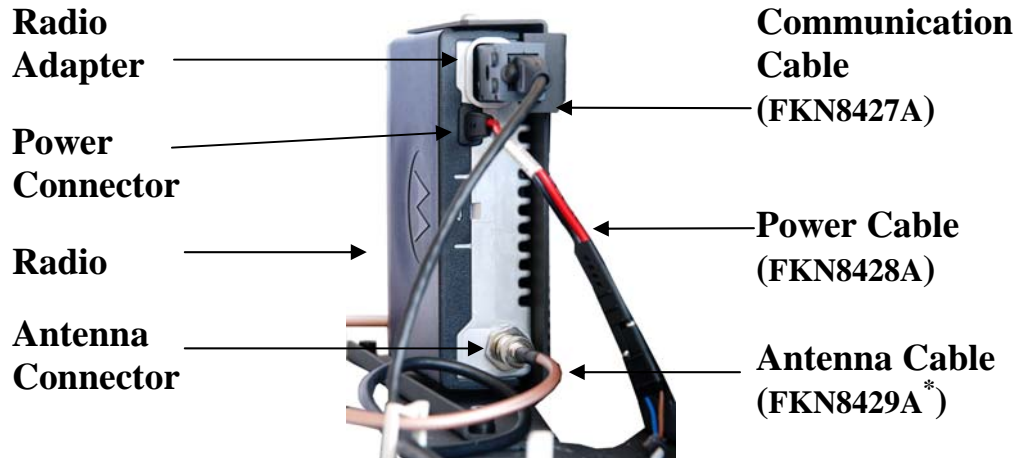
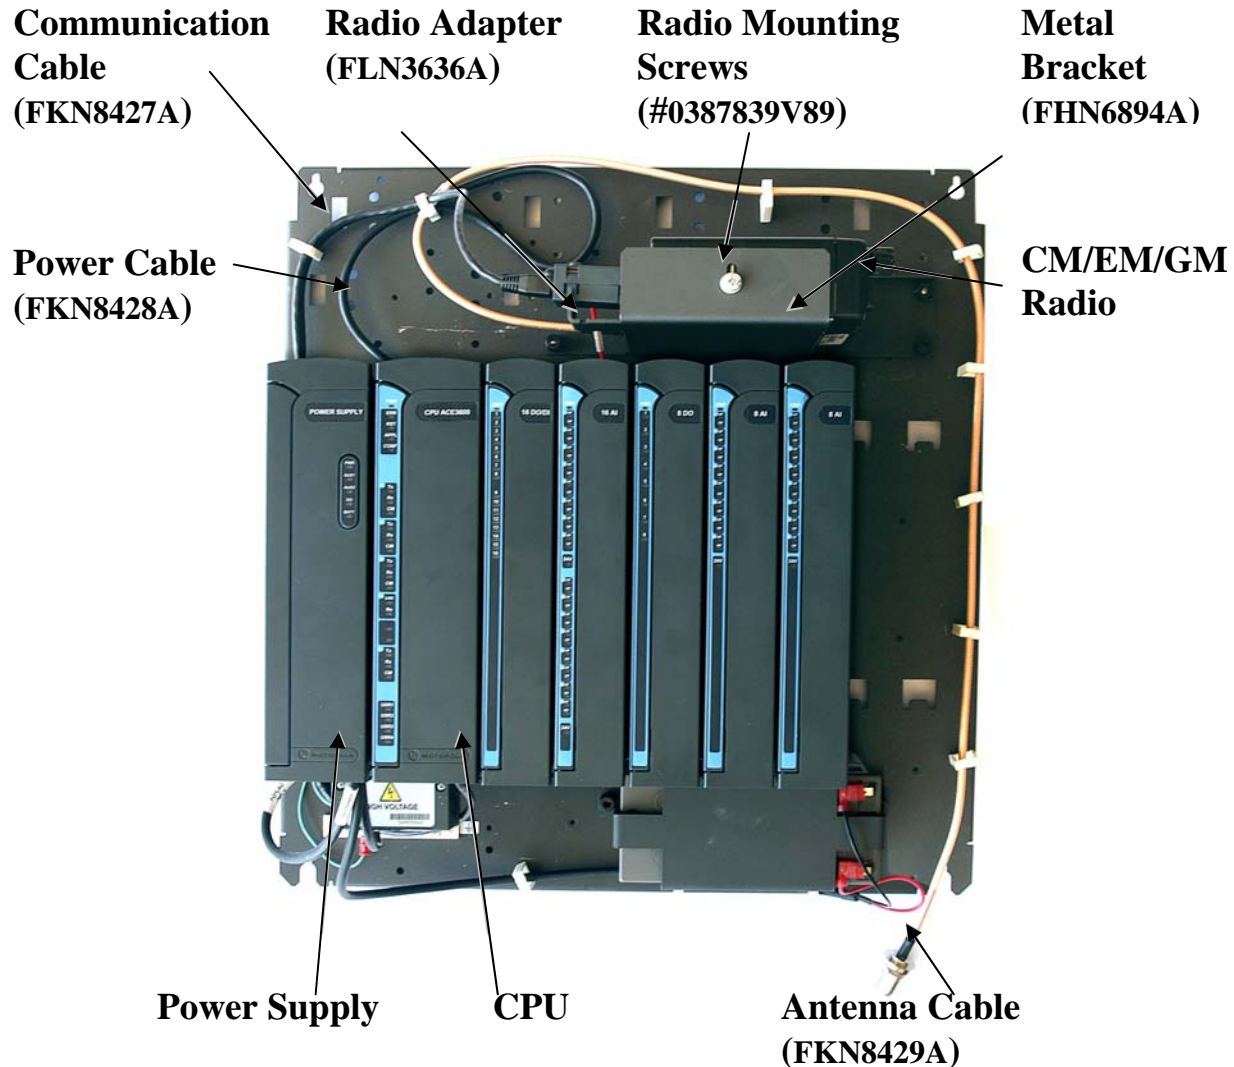

Figure 21-35 CM/EM/GM Radio Cable Connections
Figure 21-36 CM/EM/GM Radio Installed on ACE3600 Chassis
3. Connect the power cable (FKN8428A) to the radio's power connector. (See Figure 21-34 and Figure 21-35.) Connect the other end of the power cable to the AUX1A or AUX1B connector on the ACE3600 RTU Power Supply unit. (See Figure 21-36.)
4. Connect the communication cable (FKN8427A) to the back of the radio adapter (FLN3636A) connector (10-pin RJ45 connector). (See Figure 21-35.) Place one Fair-Rite soft ferrite (#7683477X01 from the supplied ferrite kit FHN7007A) on the cable near the bottom of the CPU door, loop the cable one turn around it, and clamp the ferrite on the cable. Connect the other end of the communication cable to the plug-in port of the ACE3600 CPU.
5. Mount the CM/EM/GM radio onto the metal bracket (#0789422V45) using the two supplied radio mounting screws from kit FHN6894A, # 0387839V89 on the top and bottom of the radio. (See Figure 21-34, Figure 21-35 and Figure 21-36.)
6. Connect the antenna cable (FKN8429A*) to the antenna connector on the radio and to the opening on the bottom of the ACE3600 housing using the four supplied screws. (See Figure 21-35 and Figure 21-36.) Mount the complex (bracket and radio) on the RTU chassis above the CPU and I/O modules, using the four built-in screws. (See Figure 21-36.)